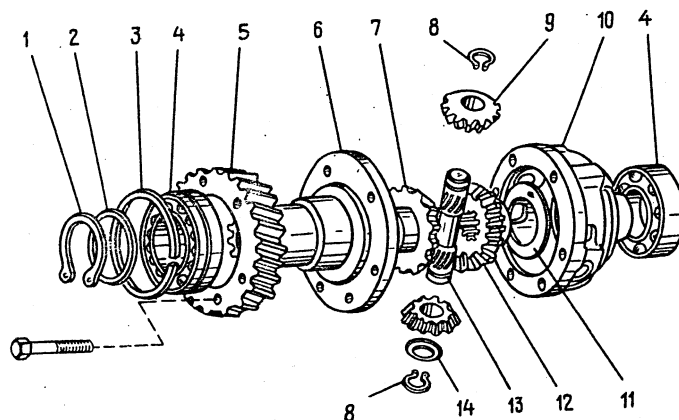

Fig. 3-38. Parts of Transfer Case Differential:
- remove lockring 1 (Fig. 3-38) and spring washer 2 of the front bearing;
- remove lockrings 8 (Fig. 3-38) and spring washer 14 then drive out the pinion shaft and take off the differential pinions and the driving axle gears with supporting washers.
Remove spring washer 14 (Fig. 3-38) and make sure there is no radial displacement of lockrings 8 in the grooves of shaft 13. Replace the lockrings if they are found to be loosely fitted.